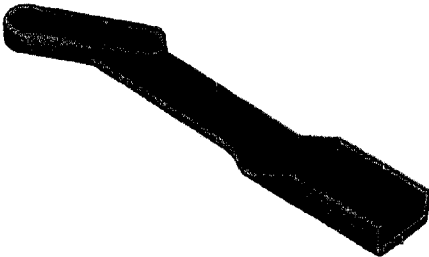

Fig. 23 — KS-16576, List 6 Designation Plate
6.16 The KS-16576, List 6 designation plate, Fig. 23, is a red plastic hood designed to cover the test-terminals on the cable side of 300-type connectors.